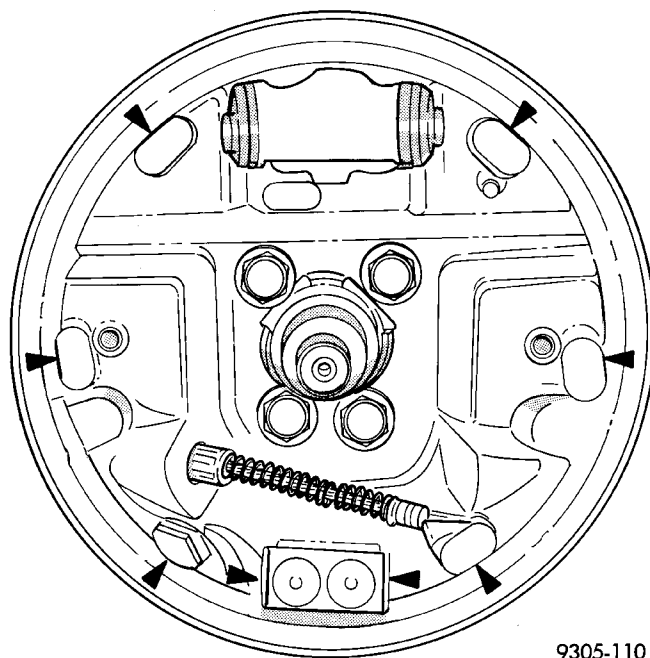

Fig. 88 Shoe Contact Areas on Support Plate
(1) Lubricate the eight shoe contact areas on the support plate and anchor using Mopar Multi-Purpose Lubricant or equivalent (Fig. 88).